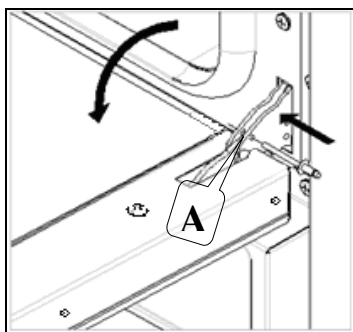

Fig. 3
- attach the rings "A" onto the hinge seats (Fig. 3);